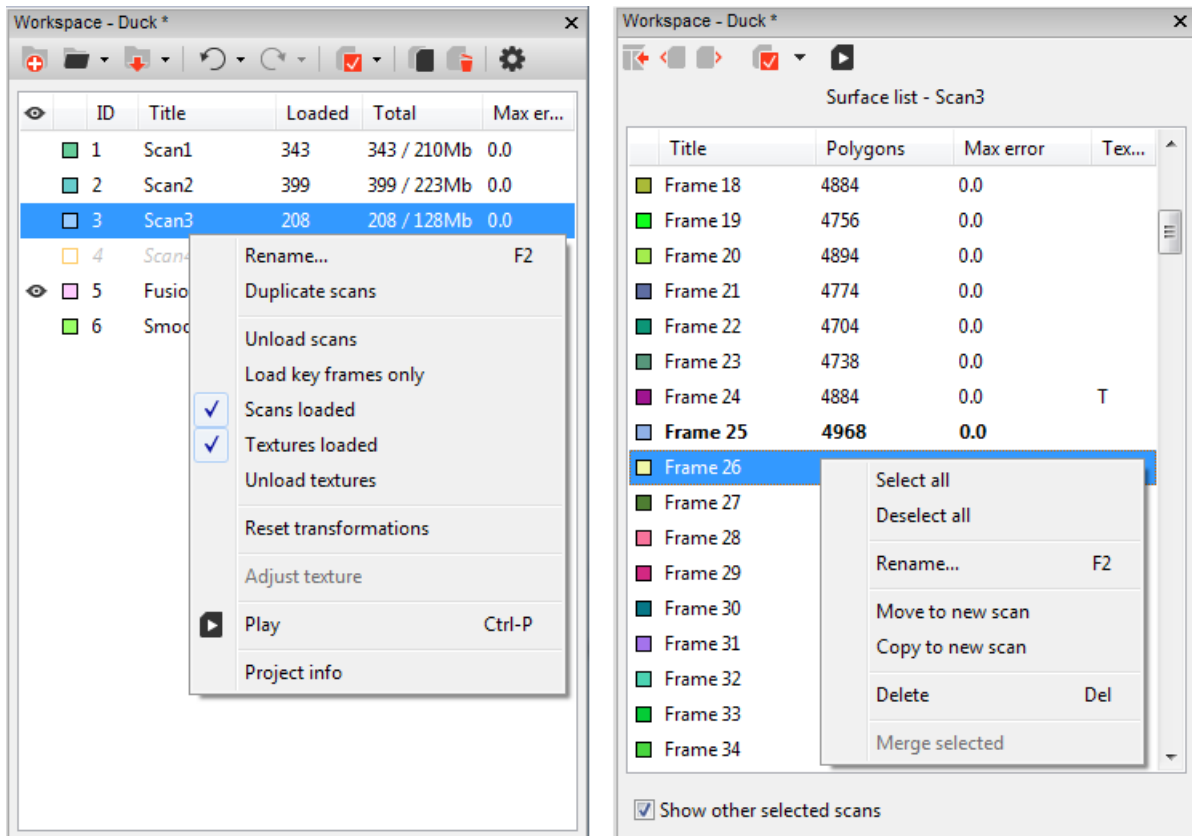

Figure 8.2: *Workspace* panel: scan list (original view) on left and surface list on right.
After each scanning session, Artec Studio saves the sequence of frames as a separate scan. The list of all scans for a given project appears in the *Workspace* panel (see Figure 8.2).
Double-clicking the scan name opens the *Surface List* panel, revealing all frames in that scan (see Figure 8.2, right). If the scan has only one frame, a panel with frame data will
2. Click `RMB` and select *Move to new scan* (Figure 8.2, right).